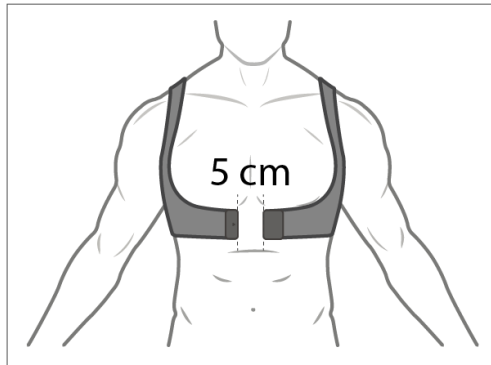

Figure 7 Fitting the Sensor Belt
2. Hold the Sensor Belt by its ends with the silver-coloured patches facing inward towards the body. Place the belt around the body with fastener facing the front and both shoulder straps comfortably placed on each shoulder. There should be an approximate 5 cm separation, between the fastener as shown in Figure 7.